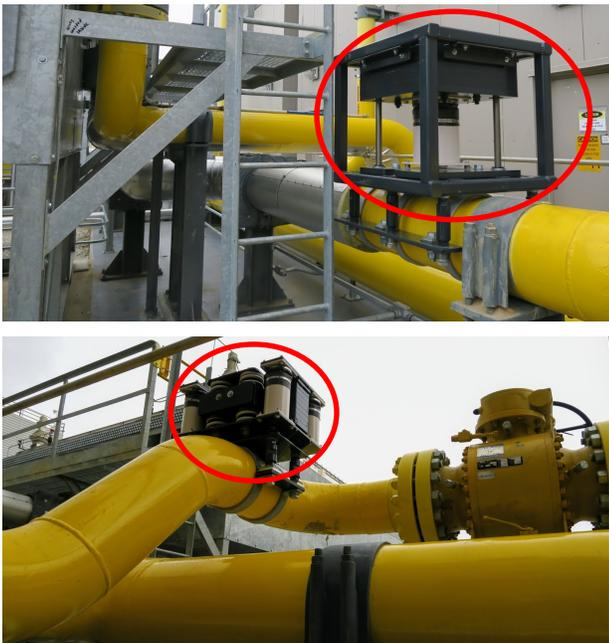

Figure 1 The XY (top) and Z (bottom) TMDs bolted to the pipe
One 800 lb tuned mass damper with two lateral (X and Y) degrees of freedom and one 400 lb tuned mass damper with one vertical (Z) degree of freedom were designed and built for one of the natural gas piping system at a natural gas-fired combined cycle power plant. The 3 degrees of freedom of the two TMDs were tuned to the first resonant frequency of the pipe at 15 Hz. Figure 1 shows images of the two TMDs (circled in red) installed on the 12" and 10" sections of the pipe.